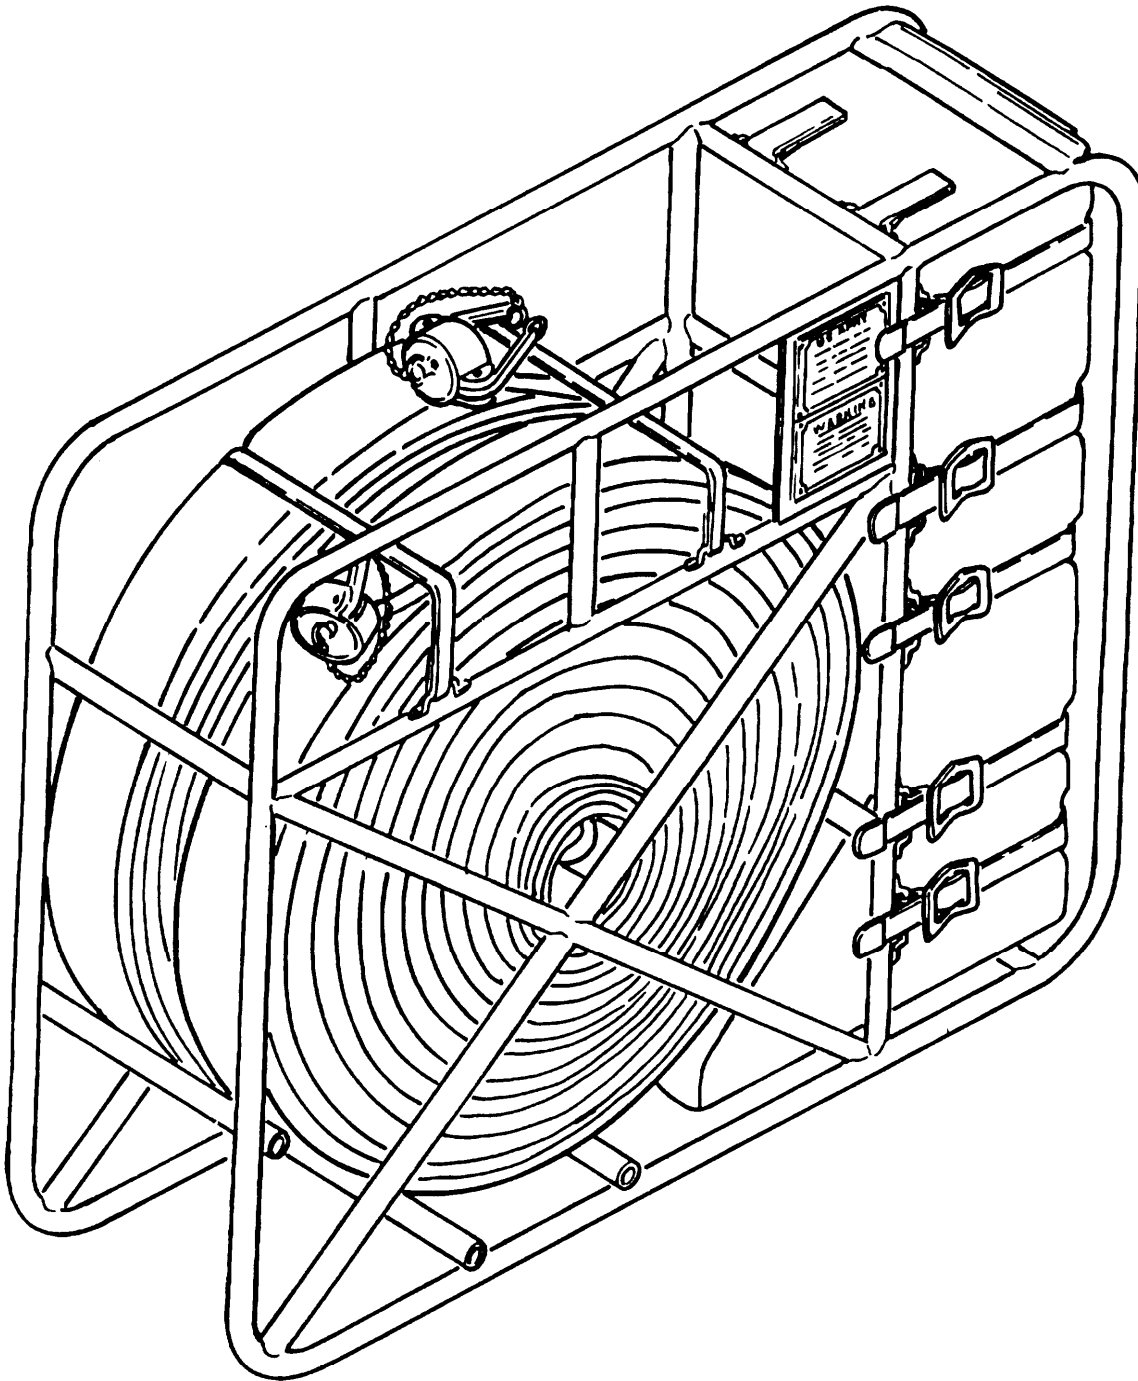

Figure 1-7. Hose and Component Kit-Y, Discharge.
e. Hose and Component Kit-Y Discharge. Refer to Figure 1-7. Hose and component kit-Y, discharge is used during two point refueling operation. Located in the container is one each adapter assembly, 4 in. female by 2 in. male, one each butterfly valve, one each Y-fitting assembly, one each valve elbow coupler, one each adapter, male by male, 2 in. by 2 in., one each adapter nozzle, one each nozzle assembly, and one each adapter/water detection kit.